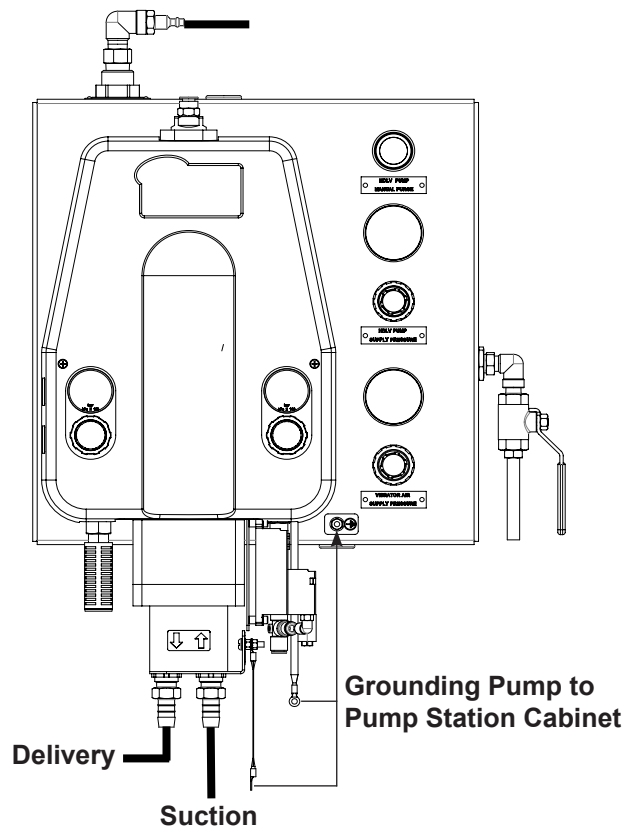

Figure 9 Suction/Delivery Connections and Pump Grounding
**Pump Grounding:** See Figure 9. Make sure that the two pump grounding harnesses are connected to the pump station cabinet.